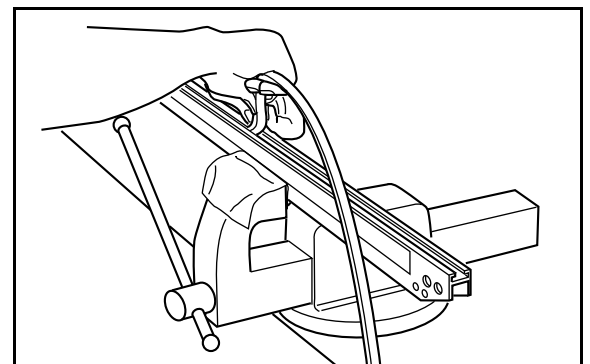

Fig. 23 Place silicon rubber/seal ledge
- 6 Place a new silicon rubber or the seal ledge inside the aluminium bar. See Fig. 23.